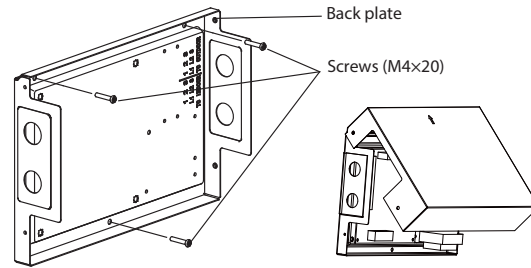

Fig. 7 — 24V Interface Kit
2. Mount the 24V INTERFACE KIT horizontally (see Fig. 7), by fastening the back plate to the wall with 3 screws (M4x20) and anchors.